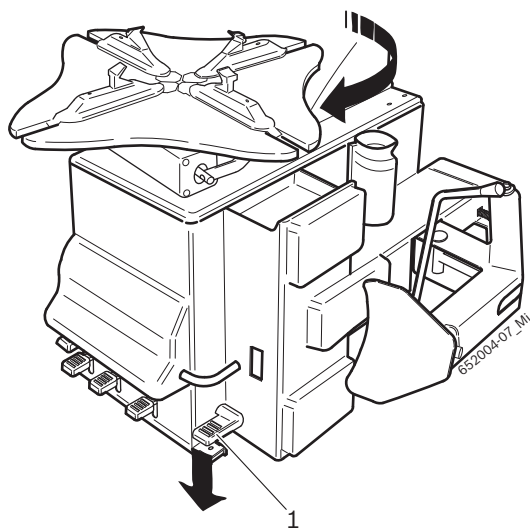

Fig. 2: Check rotation direction.
**!** For a correct functioning of TCE 4465 it is extremely important that, when the locking flange pedal shown in Fig. 2 (1) is pressed, the locking flange (Fig. 2) rotates clockwise.